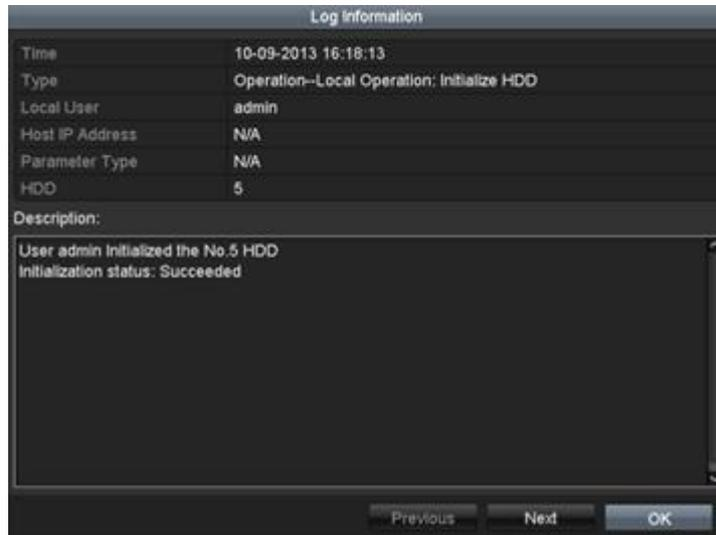

Figure 14-4 Log Details
Step 5 You can click the  button of each log or double click it to view its detailed information, as shown in Figure 14-4. And you can also click the  button to view the related video files if available.
Step 6 If you want to export the log files, click the **Export** button to enter the Export menu, as shown in Figure 14-4 Log Details.